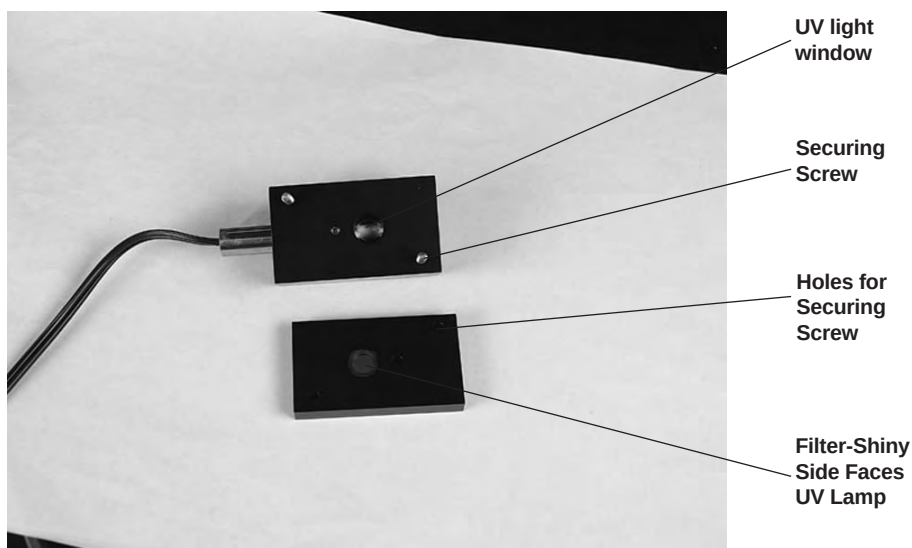

Fig. 13.19. Filter carrier and UV lamp carrier.
10. Find the filter carrier; place this on top of the UV lamp carrier with the silver side of the filter facing toward the lamp. Align the mounting holes in the filter carrier with the mounting holes in the lamp carrier (Figure 13.19).